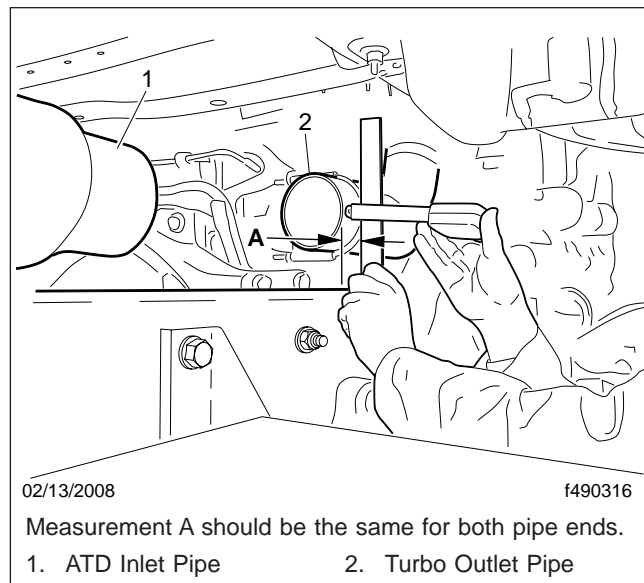

Fig. 3, Horizontal Measurement
- 3.4 Measure the horizontal distance between the pipe and the frame rail. See **Fig. 3**. This measurement must be the same for both pipe ends.